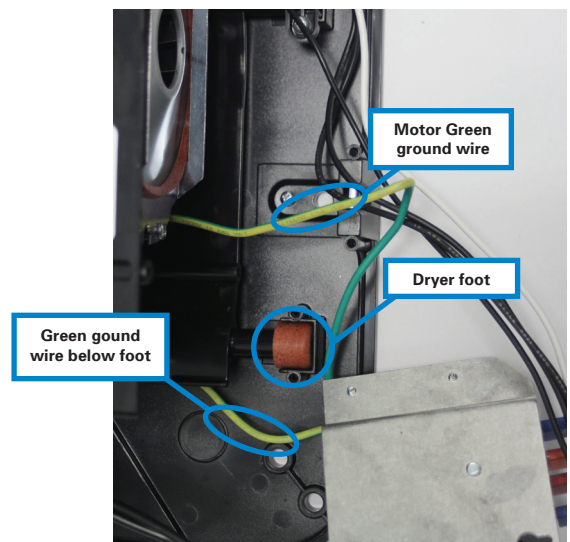

Figure 2-9
Step 2-6. With the retainer removed, pull the corner of the dryer away from the baseplate enough to pull the green ground wire underneath and below the dryer foot. See **Figure 2-9**.